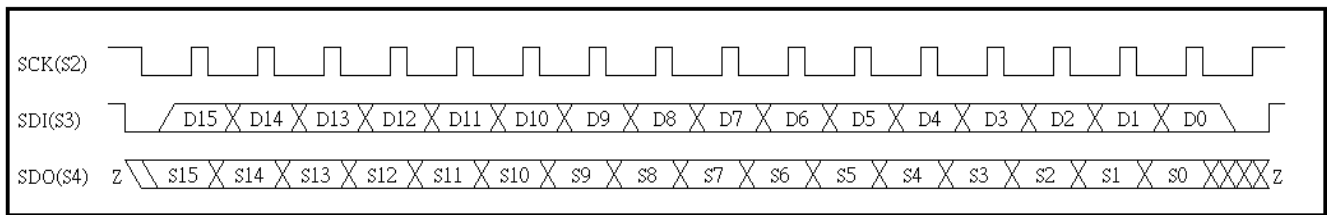

Fig. 21 I2C Data Output Command timing
- Command timing reference Fig. 21 I2C Data Output Command timing.